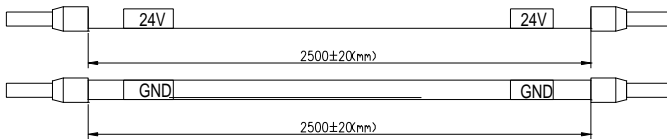

Figure B-62 Touch screen 24V power supply cable diagram
**Note:** As shown in Figure B-62, the touch screen power supply interface is connected to CN4 of GD300-01A VFD control board.